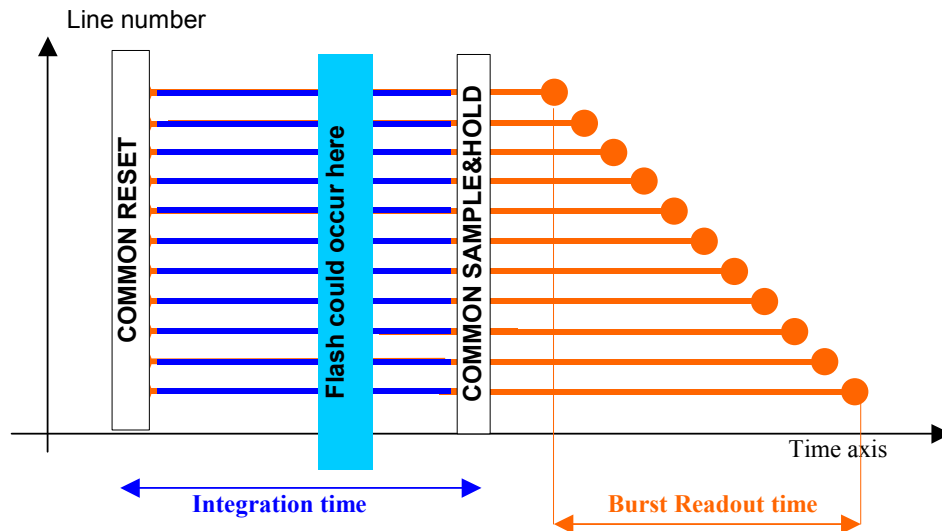

Figure 8: Synchronous shutter operation
Figure 8 shows the integration and read out sequence for the synchronous shutter. All pixels are light sensitive at the same period of time. The whole pixel core is reset simultaneously and after the integration time all pixel values are sampled together on the storage node inside each pixel. The pixel core is read out line by line after integration. Note that the integration and read out cycle can occur in parallel or in sequential mode. (ref. 4. Timing and read out of the image sensor)